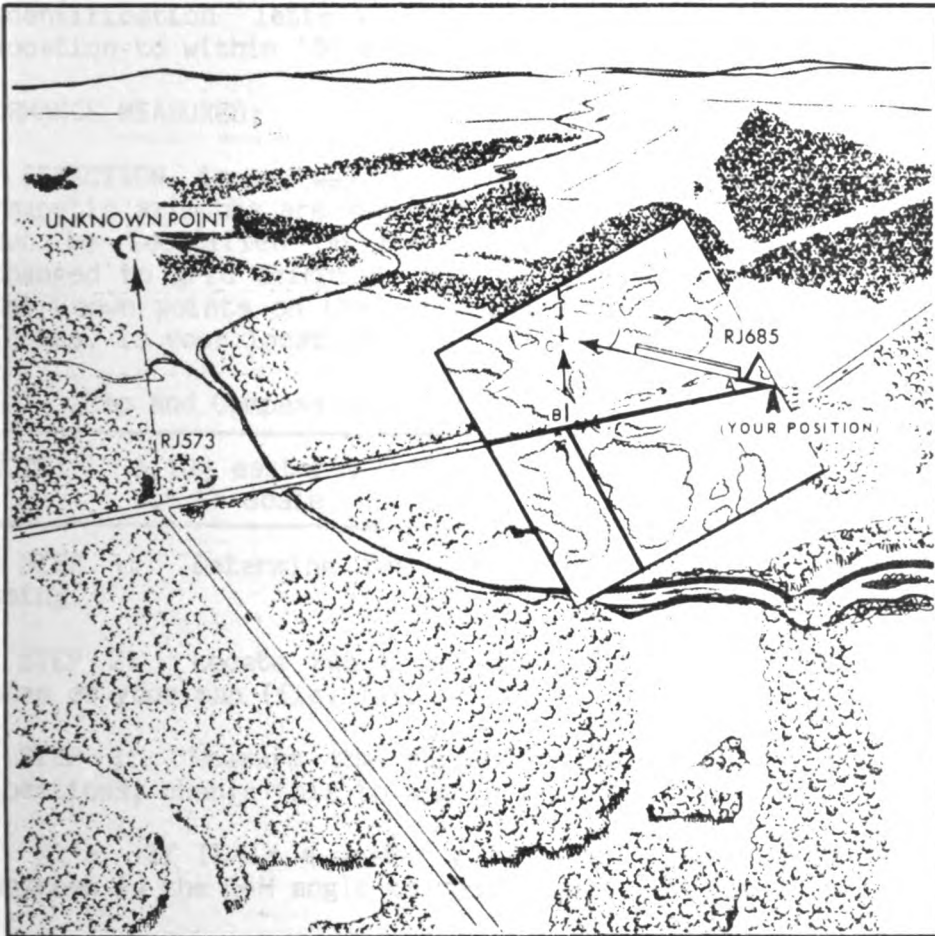

Figure 2. Intersection without compass.
2. Straightedge Method (When No Compass Is Available) (fig. 2).
c. Lay a straightedge on the map with one end at user's position (A) as a pivot point and rotate the straightedge until the unknown point is sighted along the edge.
e. Repeat the above procedure at position (B) and for a check on accuracy at a third position.
f. The intersection is the location of the unknown point (C).